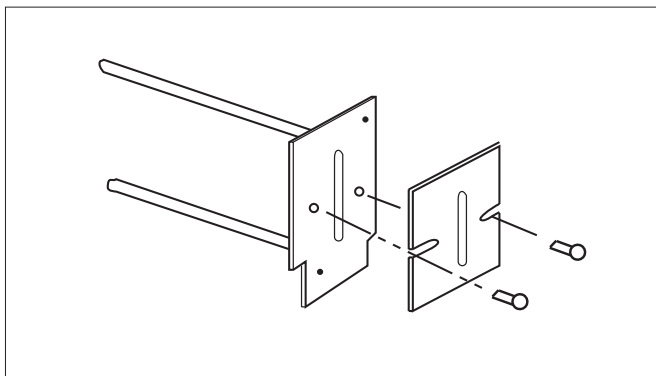

Figure 8. Light Aperture Adjustment
4. Turn on the Light Source and allow it to warm up for five minutes. Check the alignment of the Light Source and the Aperture by looking at the light shining on the back of the Lens/Grating assembly. If necessary, adjust the back plate of the Light Aperture Assembly by loosening the two retaining screws (Figure 8) and sliding the aperture plate left or right until the light shines directly on the center of the Lens/Grating Assembly.